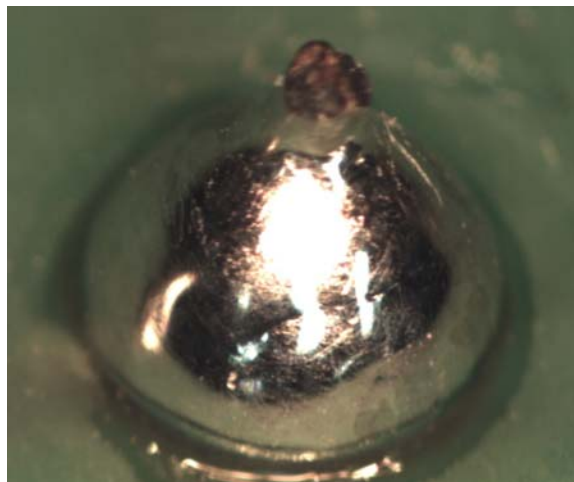

Figure 1 – Too Much Solder
- Too much solder: Excessive solder can be caused by operator error and flux core solder wire quality variation. Even the best operator cannot get solder to wet when they reach a section of wire where the flux core is reduced or missing entirely. An excessive solder joint causes poor contact angles, stress concentration points, and can even result in bridging between components (Figure 1).